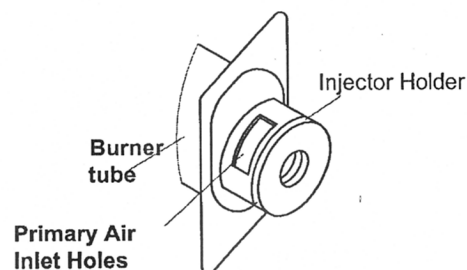

Figure 18 - Injector Holder On Outlet Burner Tube
2. Inspect burner, pilot and primary air inlet holes on injector holder for dust and dirt (see figure 18).